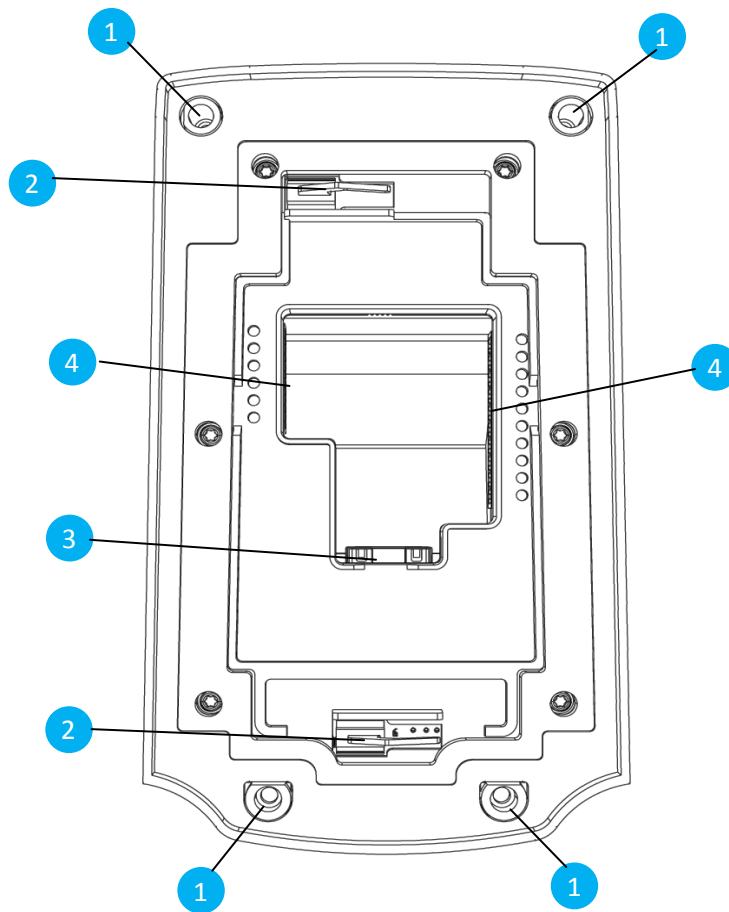

Figure 5: MorphoAccess® VP Series terminal rear view
6. Connect the necessary cables on the block connectors according to Section 4: « Electrical Interface »; then plug the block connectors into the terminal blocks (4 on Figure 5).
7. Plug Ethernet cable (if present) into the RJ45 connector (3 on Figure 5).